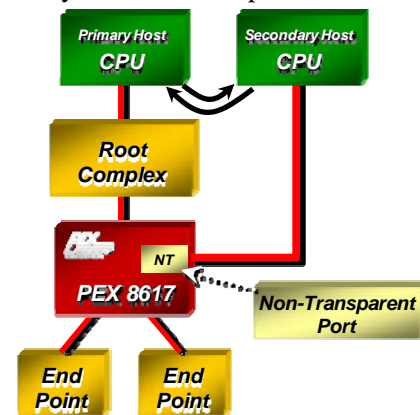

Figure 2. Non-Transparent Port
The PEX 8617 product supports a **Non-Transparent (NT) Port**, which enables the implementation of **multi-host systems** and **intelligent I/O modules** in storage, communications, and blade server applications. The NT port allows systems to isolate host memory domains by presenting the processor subsystem as an endpoint rather than another memory system. Base address registers are used to translate addresses; doorbell registers are used to send interrupts between the address domains; and scratchpad registers (accessible by both CPUs) allow inter-processor communication (see Figure 2).